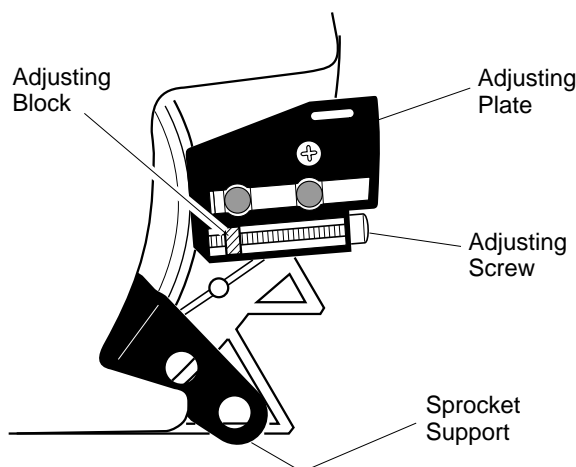

Figure 4 - Part Locations For Assembling Guide Bar
4. Turn adjusting screw counterclockwise (see Figure 4). Continue to turn adjusting screw until adjusting block is to rear of adjusting plate.